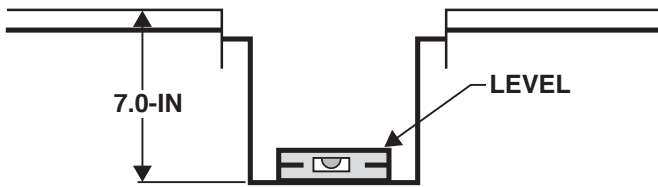

Figure 10E: U Shaped Box Depth Dimension
6. Mount fabricated box so the bottom inside of the box is 7" below floor opening. **Note:** installing units before finish floor is installed, subtract floor thickness from 7" for mounting depth. **Example:** 7" mounting depth minus floor thickness .75" equals new mounting depth. See figure 10E.